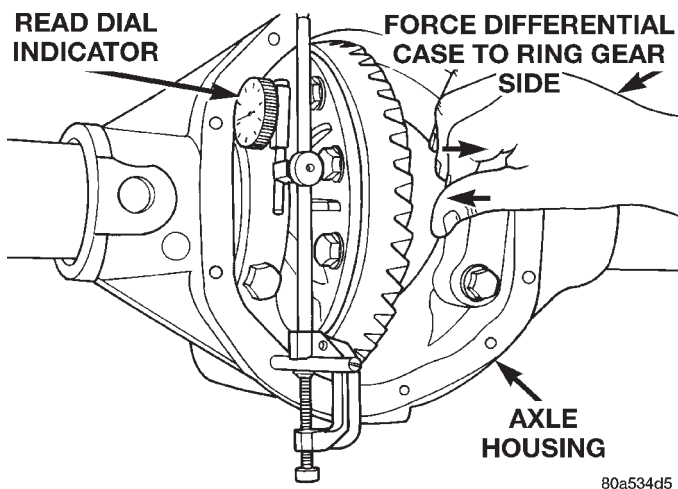

Fig. 73 Hold Differential Case and Read Dial Indicator
- (12) Push and hold differential case to ring gear side of the axle housing (Fig. 73).
- (13) Record dial indicator reading (Fig. 73).
- (14) Add 0.008 in. (0.2 mm) to the zero end play total. This new total represents the thickness of